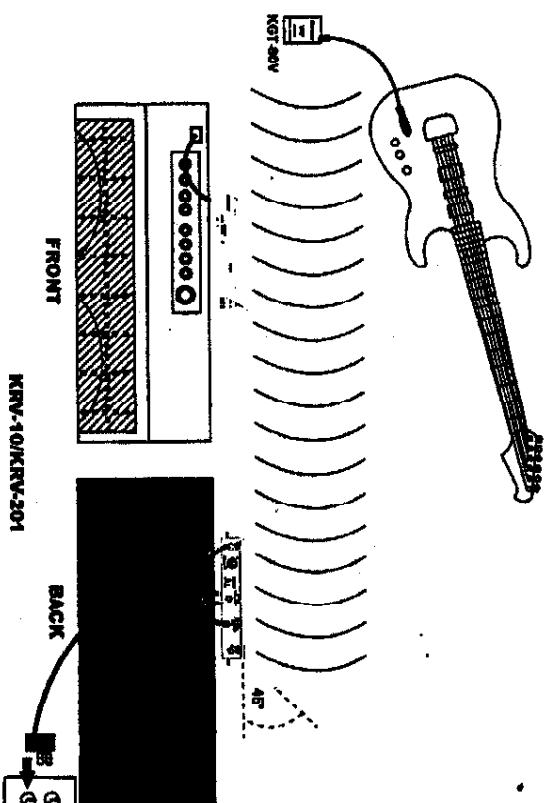

FIGURE 10
1. Refer to Figure 10, Connect the supplied ac power adapter into the DC INPUT connector in back of the receiver. Insert the adapter's cable into the power cable retainer. (*suit of KRV-10*) Plug the adapter into a wall socket or other ac power source (use HD41N110 for 220VAC, 50Hz power, use HD41N110E for 120VAC 60Hz power). Push the power switch on the face of the receiver, the red POWER light on the receiver will glow.